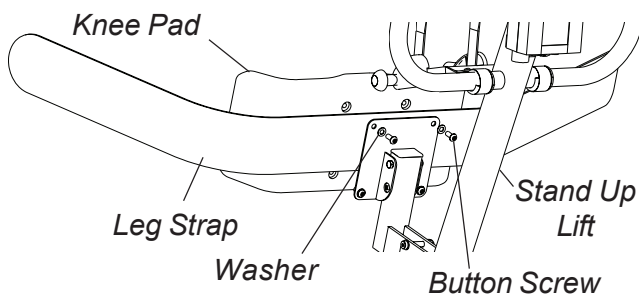

FIGURE 5 - REPLACING OPTIONAL LEG STRAP
(FIGURE 5)**
1. Remove TOP (2) button screws and washers that secure knee pad and existing leg strap to stand up lift.
2. Loosen BOTTOM two (2) button screws and washers that secure knee pad and existing leg strap to stand up lift.
4. Position the new leg strap between the four (4) mounting holes as shown in **FIGURE 5**.